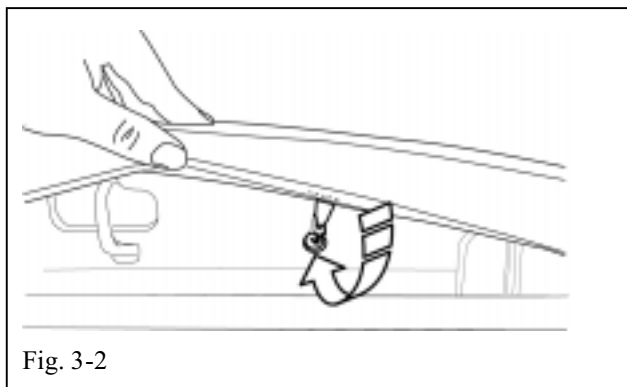

Fig. 3-2
(c) Attach one (1) elastic with  hook to the hole at the top of the hood (Fig. 3-2.)
(1) Repeat on opposite side.